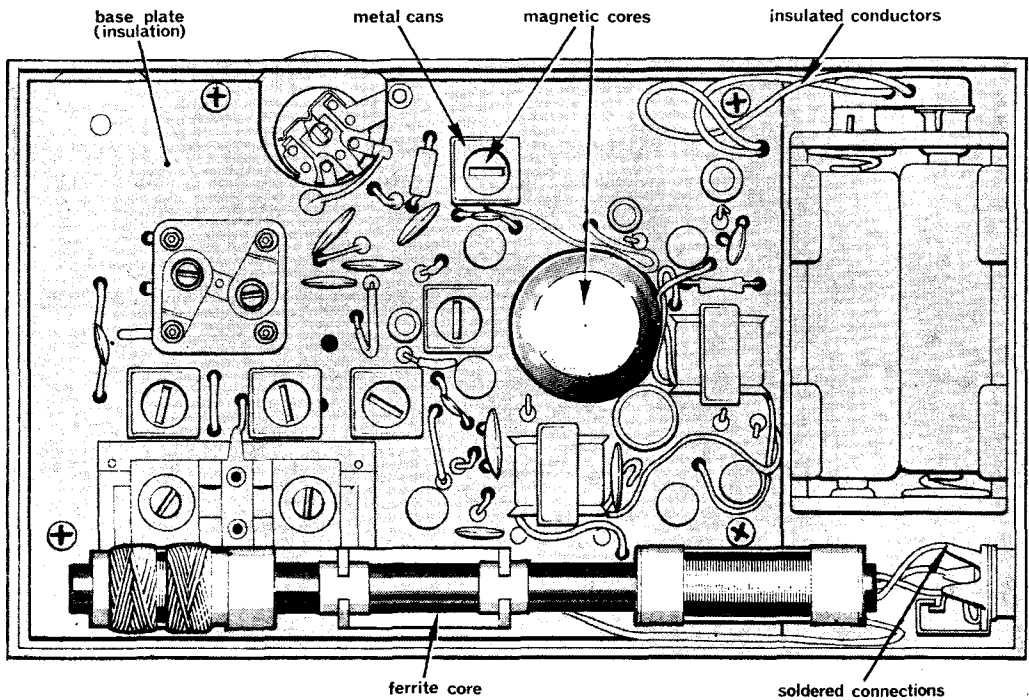

Fig. 1 Materials used in a transistorized radio
2. Fig. 1 shows the inside of a portable transistor radio. From this drawing we can see that this single piece of equipment uses many different types of material. We shall consider such materials in this chapter, starting with conductors and insulators, and then going on to summarize the properties of some of the more common magnetic and structural materials.